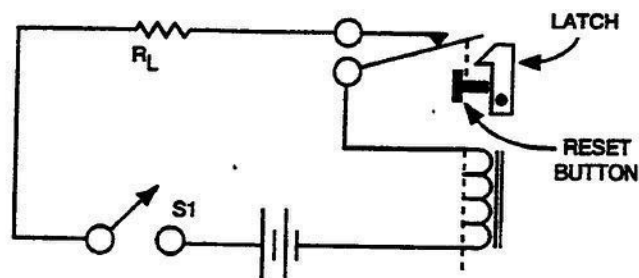

Figure 2-70. Overload relay.
**Overload relay.** Another application of an electromagnetic relay is its use as a protective device similar to a fuse. Figure 2-70 shows an example of the overload relay circuit. When switch S1 is closed, current flows through the relay coil and load resistor  $R_L$ . Assume the normal circuit current is 10 mA, but the relay coil requires 20 mA of current to move the armature. The relay is de-energized with a normal current of 10 mA. If the load resistor becomes shorted, the circuit current exceeds 20 mA, the relay is energized, and the path for current is opened. A mechanical latch locks the armature in the open position. After the trouble is corrected, the reset button must be pushed to release the armature so that it returns to its NC position. The action of the overload relay described here is that of a fuse or circuit breaker with manual reset.